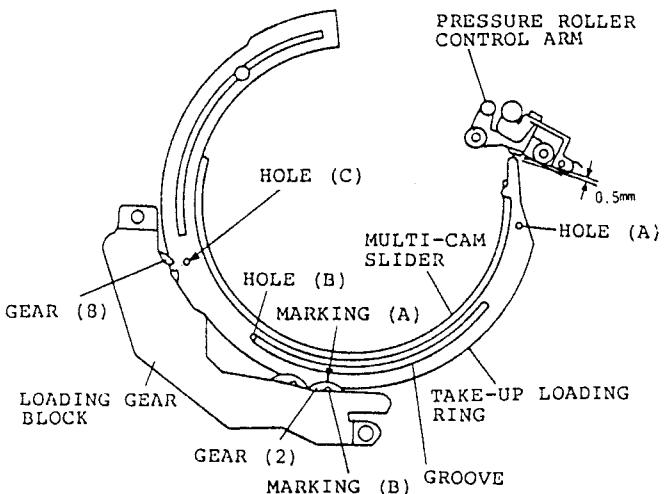
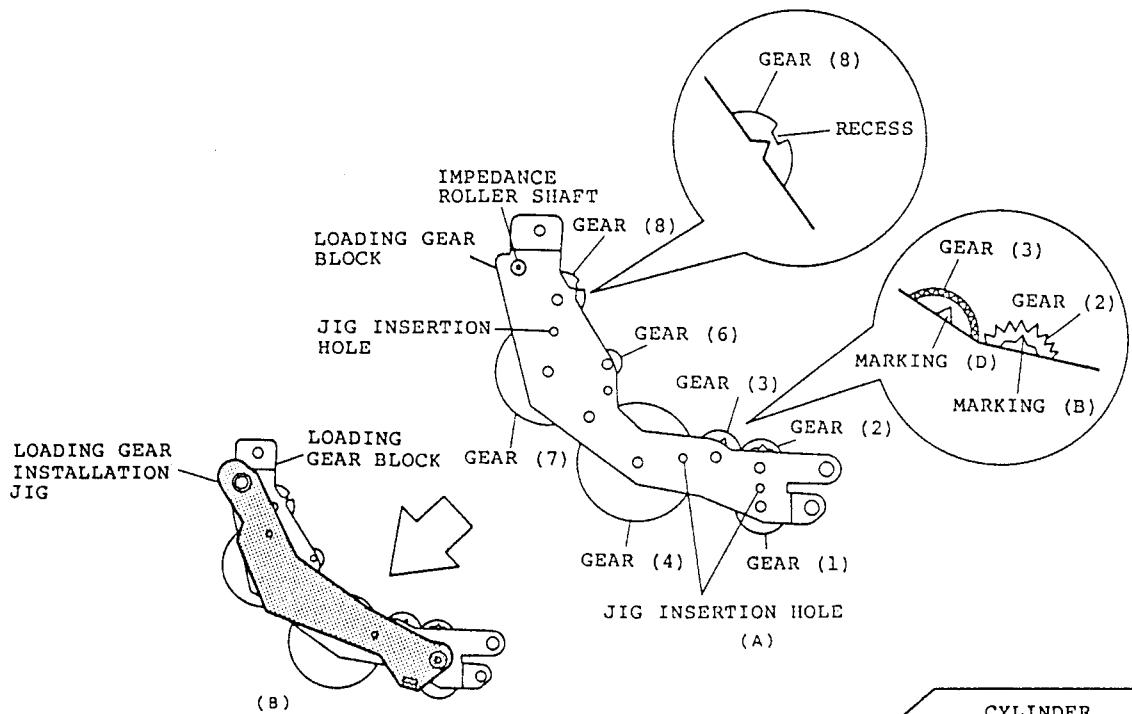

Fig. 3-1
Fig. 3-2
#### 1. PHASE MATCHING OF TAKE-UP/SUPPLY LOADING RINGS AND LOADING GEAR BLOCK IN ASSEMBLY (Figs. 3-1, 3-2, 3-3)
- 1) Install the take-up loading ring so that the space between the right edge of the take-up loading ring and pressure roller control arm is 0.5mm. (See Fig. 3-1)
- 2) Align the right end of the groove in the take-up loading ring with hole (B) in the multi-cam slider.
- 3) Insert a pin into hole (A) and stick it into the chassis at right angles.
- 4) Set gear (2), gear (3) and gear (8) of the loading gear block as shown in Fig. 3-2 (A).
- 5) Attach the loading gear installation jig to the loading gear block in the state set in step 4) as shown in Fig. 3-2 (B).
- 6) Assemble the loading gear block with the jig attached in the chassis so that hole (C) in the take-up loading ring and the recess of gear (8) are aligned and marking (A) on the take-up loading ring and marking (B) on gear (2) are aligned. (See Fig. 3-1)